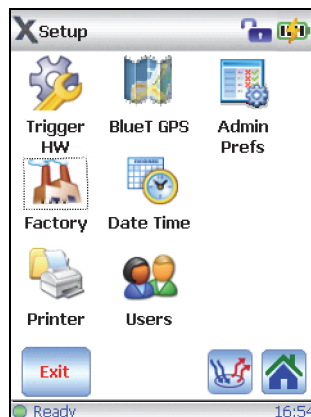

Figure E-11 The Factory button in the Setup screen
1. In the **Setup** screen, tap **Factory** (see Figure E-11 on page 159).